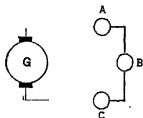

FIG. 31. Lamps in series across terminals of generator.
**Prob. 4-2.** (a) If each lamp, Fig. 31, takes 1.7 amperes, how much current must the generator deliver?